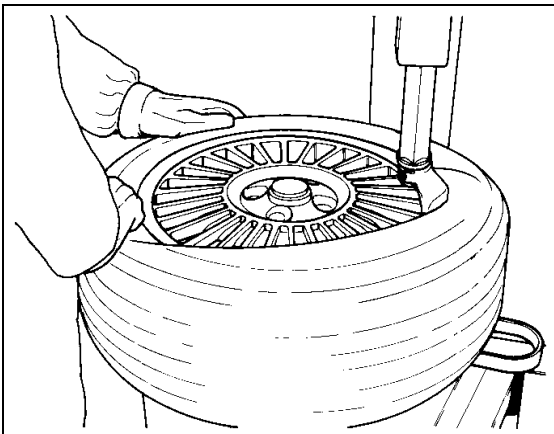

Fig.16
G. Rotate the turntable clockwise and at the same time push down on the tire sidewall to move the bead into the drop center of the rim (Fig.16).